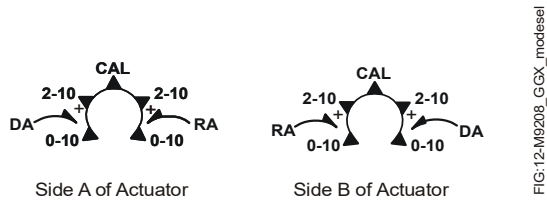

Figure 13: Mode selection
Actuators have an external mode selection switch to calibrate, select input signal range, and reverse control logic. The switch is accessible from both A and B sides of the actuator as illustrated in Figure 13. Actuators are delivered in Direct Acting (DA), DC 0 to 10 V input signal mode. To change to Reverse Acting (RA) mode, move the mode selection switch from DA to RA. The input signal range is selectable between DC 0 to 10 V or DC 2 to 10 V. If the CAL function is not used, both input signal ranges are proportioned across the full rotation range of 0 to 95° rotation.